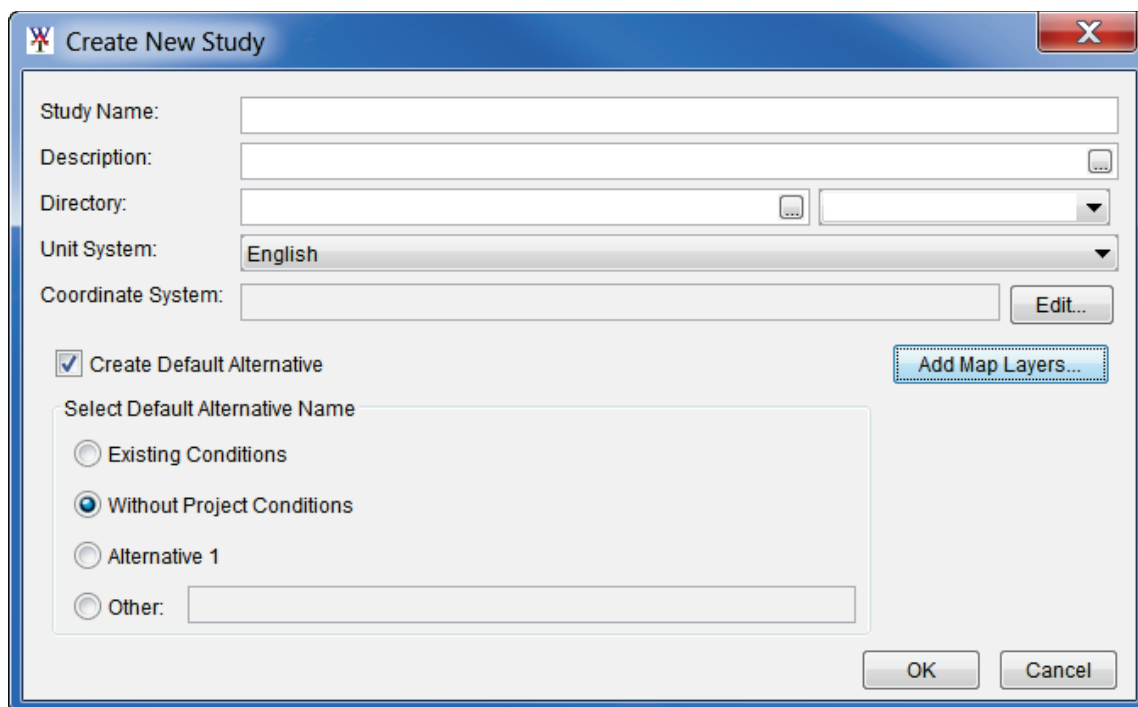
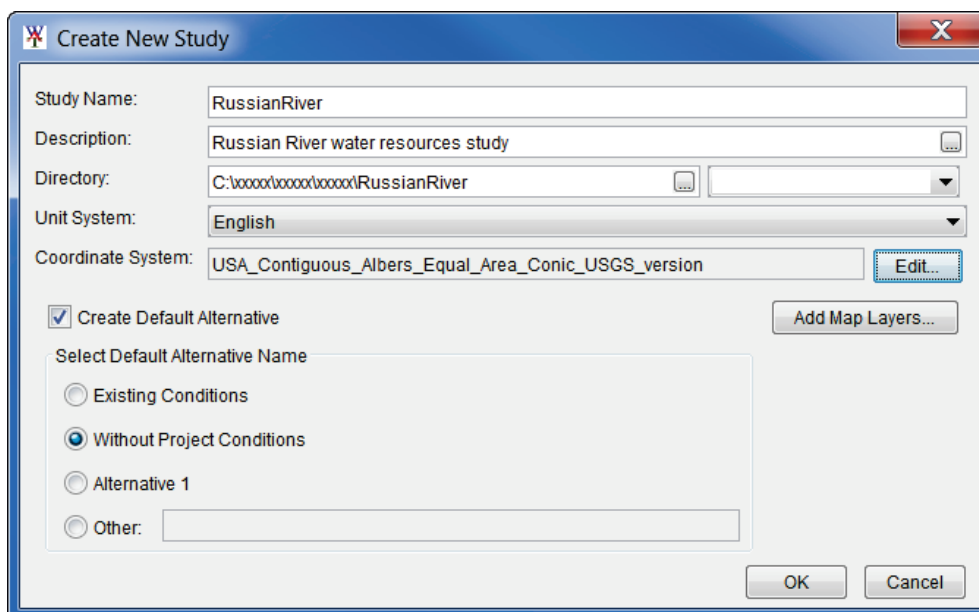

Figure 7.2 Create New Study Dialog Box
**Figure 7.5** Map Coordinate Information Dialog Box
1. From the HEC-WAT main window (Figure 7.1), on the **File** menu, click **New Study**. The **Create New Study** dialog box (Figure 7.2) will open.
2. In the **Study Name** box (Figure 7.2), enter a name, and in the **Description** box, enter a description for the new study.
3. In the **Directory** box (Figure 7.2), either enter the name of the directory where to store the HEC-WAT study, or click , and an **Open** browser (Figure 7.3) will open. Navigate to the directory where the HEC-WAT study will be stored, click **Open**. The **Open** browser (Figure 7.3) will close. On the **Create New Study** dialog box (Figure 7.2) in the **Directory** box the location will display.
4. The **Unit System** (Figure 7.2) for the study defaults to **English**. The other choice from the list is **SI** (metric).
6. From the **Create New Study** dialog box (Figure 7.2), click **Edit** (by the **Coordinate System** box), the **Map Coordinate Information** dialog box will open (Figure 7.4). The dialog box opens with a default coordinate system (*Google/Bing Web Mercator*).
7. From the **Map Coordinate Information** dialog box (Figure 7.4), click **Load from file** (lower left corner of dialog box); an **Open** browser (Figure 7.3) will open. Browse to the location of the map layer (i.e., *RR\_StreamAlignment.prj*) that has the correct projection for the study area. Click on that map layer, click **Open**, now the **Map Coordinate Information** dialog box will contain information about the projected coordinate system (Figure 7.5). Click **OK**, the **Map Coordinate Information** dialog box will close (Figure 7.5). Now on the **Create New Study** dialog box the **Coordinate System** box (Figure 7.2) contains the name of the projected coordinate system (i.e., *USA\_Contiguous\_Albers\_Equal\_Area\_Conic\_USGS\_version*) for the study.
8. When creating the study, the user can add map layers that the PDT has gathered for defining the watershed area. From the **Create New Study** dialog box (Figure 7.2), click **Add Map Layers**. The **Select Map to Add** browser will open (Figure 7.6). To copy the map layers to the study directory area, from the **Select Map to Add** browser (Figure 7.6), select **Create Copy**. Browse to where the map layers are located, select the appropriate map layers, click **Open**, the **Select Map to Add** browser will close (Figure 7.6). The **Create New Study** dialog box (Figure 7.7) appears.